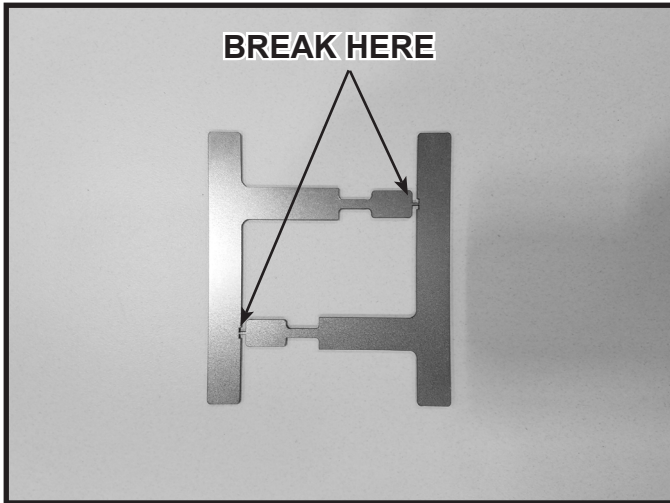
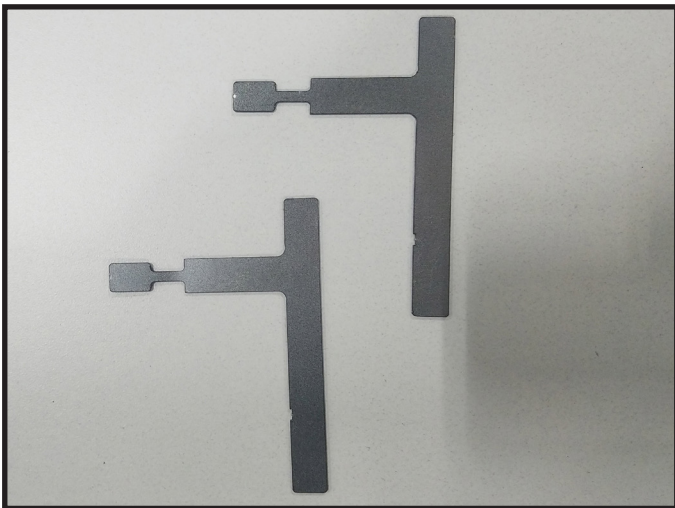

Figure 5.4 Bend and Break Pull Tools Apart
Figure 5.5 Pull Tools Separated
5. Bend pull tools and break apart as shown in Figure 5.4 and Figure 5.5.